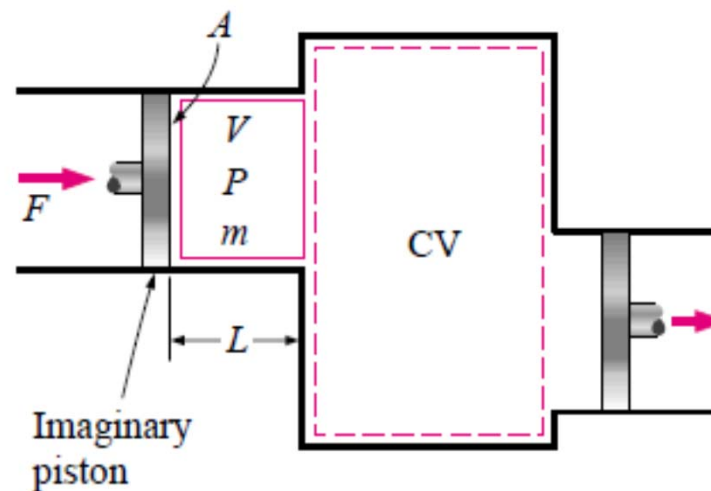

Fig. 1.17: Schematic for flow work.
- To obtain a relation for flow work, consider a fluid element of volume V as shown in Fig. 1.17.
- If the fluid pressure is P and the cross-sectional area of the fluid element is A (Fig. 1.17), the force applied on the fluid element by the imaginary piston is
- The flow work relation is the same whether the fluid is pushed into or out of the control volume (Fig. 1.17). It is interesting that unlike other work quantities, flow work is expressed in terms of properties. In fact, it is the product of two properties of the fluid. For that reason, it is viewed as a *combination property* (like enthalpy).